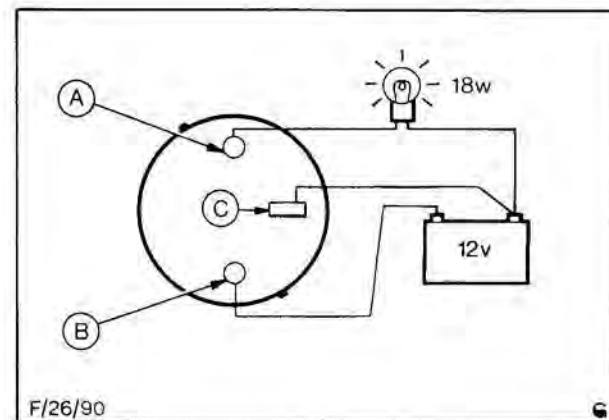

Fig. 12B. Solenoid continuity check
- B. With both solenoid cables still disconnected, connect a new test circuit, Fig. 12B, this time with a high wattage (18–21 watts) bulb, switched by solenoid main terminals. Energise solenoid by applying 12 volts between spade terminal and starter feed terminal. The solenoid should be heard to operate and test bulb should light fully indicating closure of solenoid contacts.